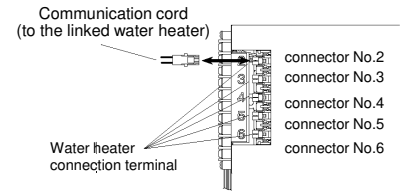

Figure 2: Water heater connection terminal
* Disconnect all communication cords from the water heater connection terminals (Figure 2).